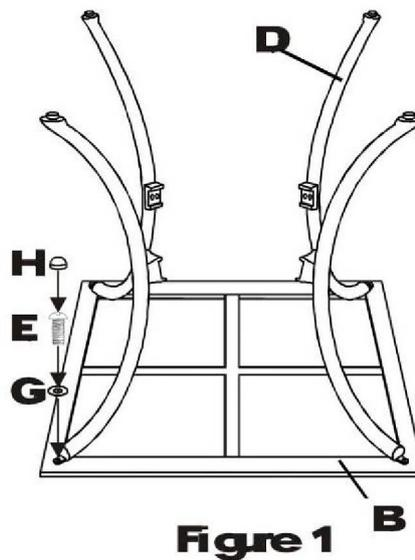

Figure 1
2. Place the table rim (without tile) (B) upside down on a flat, non-abrasive surface. Attach table leg (D) to rim (B) using short bolt (E) and washer (G). Guide bolt (E) through hole in table leg (D), into pre-drilled hole in the table rim (B). Hand tighten three to four turns only. **Do not tighten completely.** Some adjustments may be necessary to ensure proper alignment of the table legs. Repeat for other three legs. (Figure1)